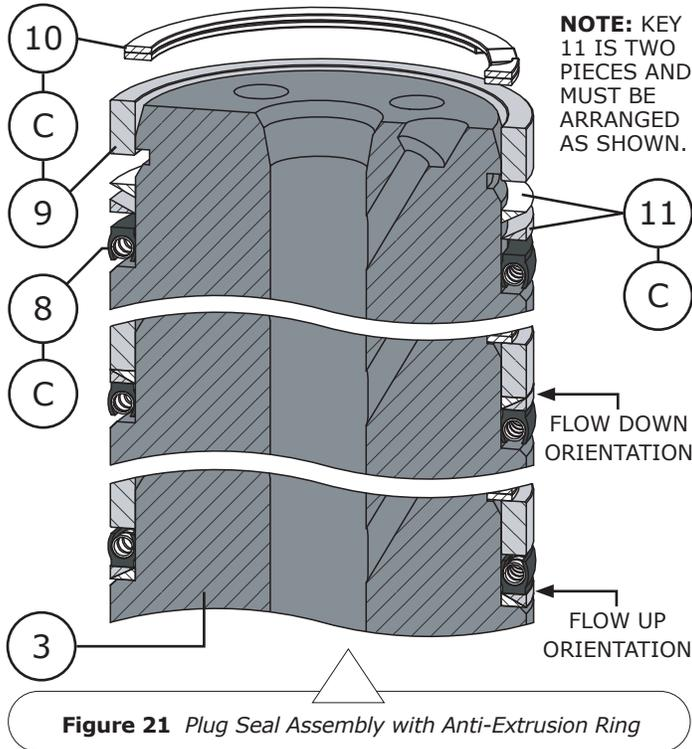

Figure 21 Plug Seal Assembly with Anti-Extrusion Ring
- 2 Install the seal ring (Key 8) onto the valve plug (Key 3), refer to Figure 21 for proper seal ring orientation. **NOTE:** 8 inch valves are technically one-piece plug seals, 8 inch valve assemblies use a seal ring only and do not make use of a backup ring (Key 9) or retaining ring (Key 10).
- 3 Apply Lubriplate® No. 105 (Key C) to the anti-extrusion ring (Key 11) and install the anti-extrusion ring on to the valve plug as shown in Figure 21. **NOTE:** Anti-extrusion rings are only used for valve assemblies rated to exceed 450°F (232°C).